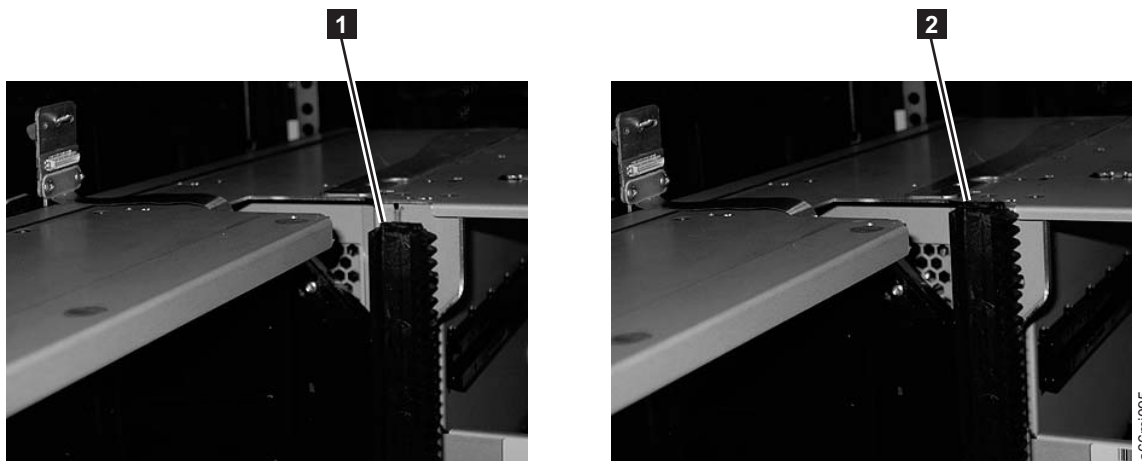

Figure 3-17. Gear racks positions (rear gear racks shown)
2. For all configurations, ensure that the front and rear gear racks are locked in the upper position. See **2** in Figure 3-17.
2. **IMPORTANT:** Ensure that the front and rear gear racks are locked in the upper position. See **2** in Figure 3-17 on page 3-19.
13. **IMPORTANT:** Lower the gear racks into the down (operating) position. See **1** in Figure 3-17 on page 3-19.
1. **IMPORTANT:** Ensure that the front and rear gear racks are in the down (operating) position. See **1** in Figure 3-17 on page 3-19.